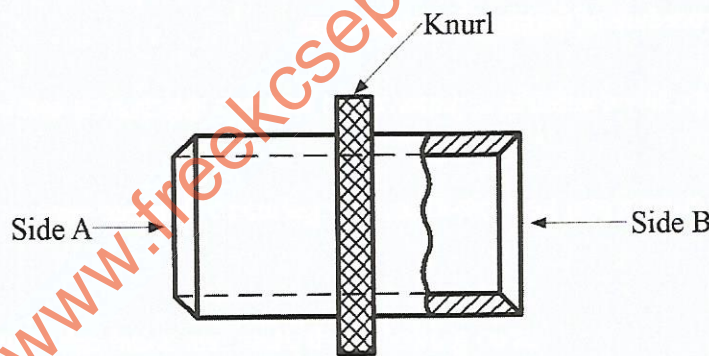

Figure 2
14. **Figure 2** shows a mild steel collar bush to be made on a lathe machine.